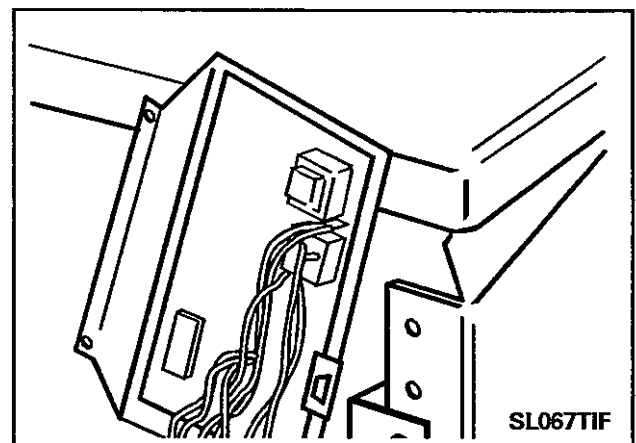

Figure 9-9
8. Rotate the assembly and position the slot in the backside of the mounting bracket with the protruding flange of the the upper right top cover to the cabinet bracket (**Figure 9-9**).